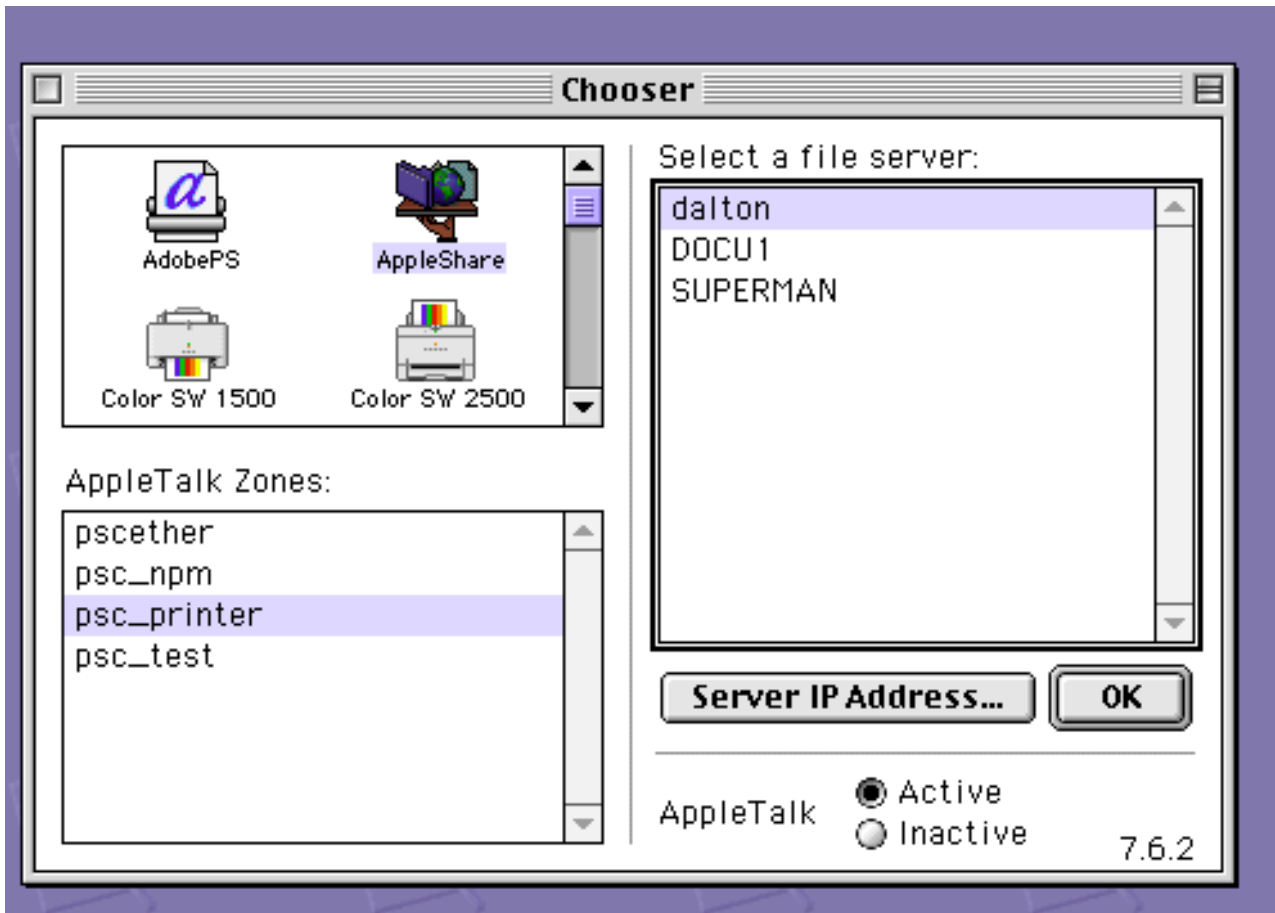

Figure 38. Chooser selections
- To connect to the shared directory folder on the Infoprint AIX server, use Chooser (see Figure 38 on page 150).